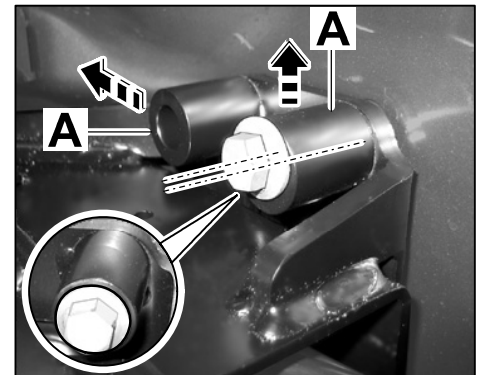

Figure 8
2.3 Align screw guides for the trailer hitch ⇒ *Figure 8 -A-* symmetrically with respect to the eight screw heads ⇒ *Figure 8*.